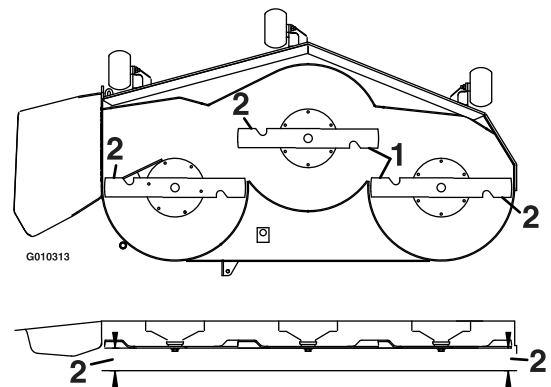
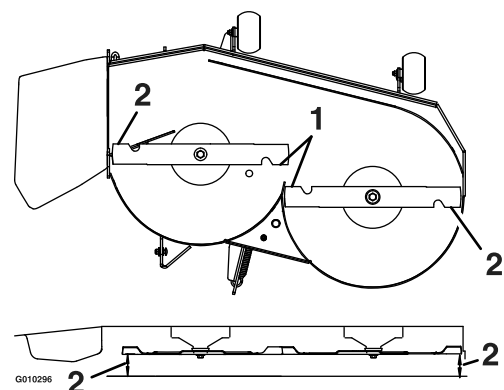

Figure 39
Figure 40
5. Measure between the outside cutting edges and the flat surface (Figure 39 and Figure 40). If both measurements are not within 3/16 inch (5 mm), an adjustment is required; continue with this procedure.
- Carefully rotate the blades side to side (Figure 39 and Figure 40).
- Loosen the leveling adjust locking nuts (item 4) on all four corners so that the deck is sitting securely on all four blocks. Make sure that the deck hangers are all the way down (at the top of the slot) and the deck lift foot lever is pushed back against the stop, then tighten the four leveling adjust locking nuts